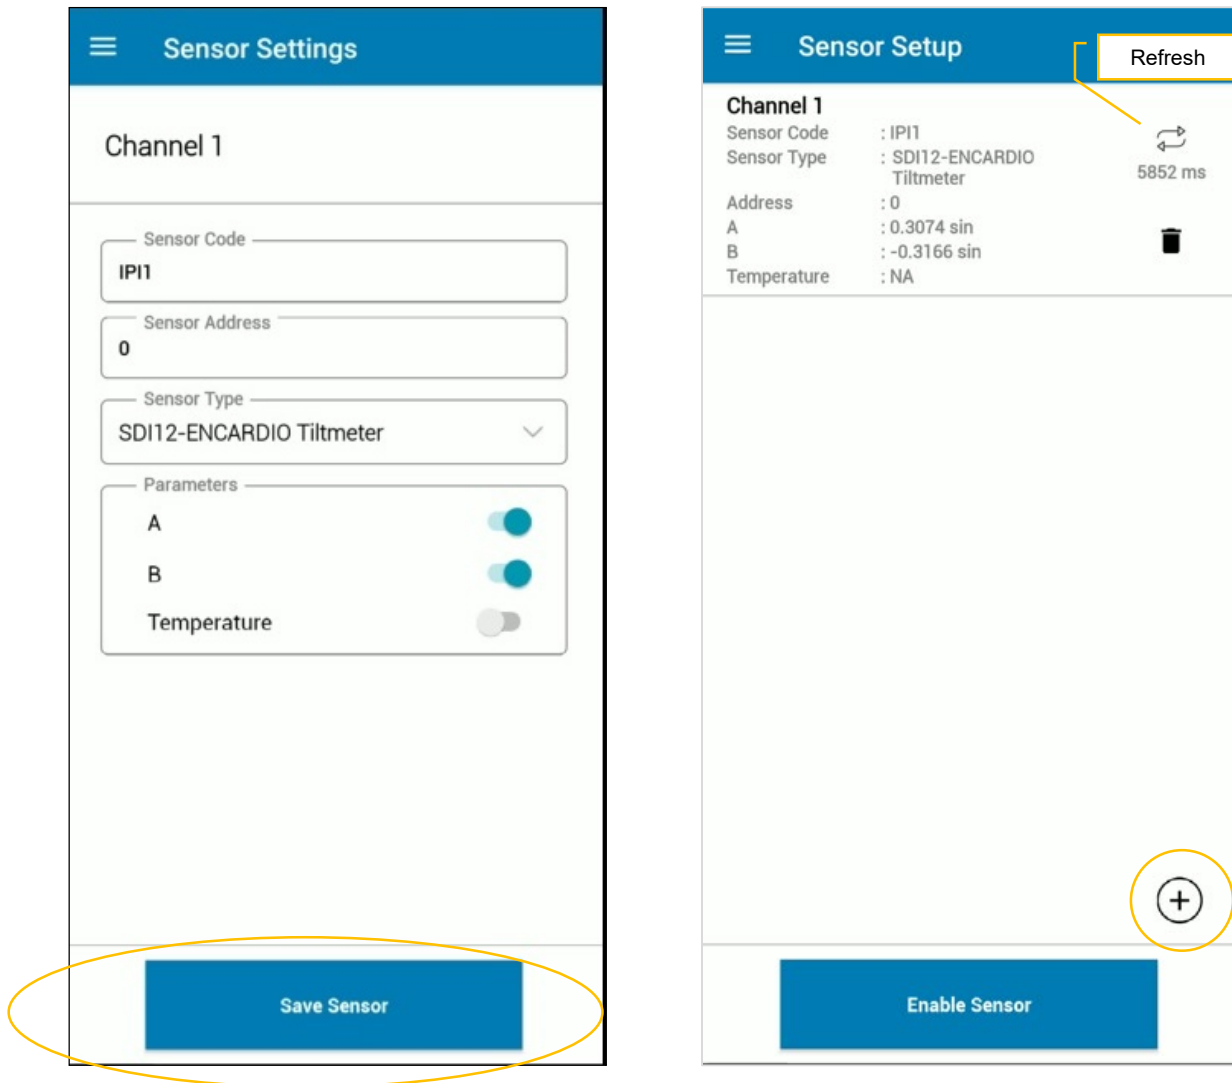

Figure 5-11
2. Sensor setting can be made as follows (shown in the left side screen in figure 5-11):
3. Click on 'Save Sensor'. The Node will now read the configured sensor, displaying the sensor readings, as shown in right side screenshot in figure 5-11. To get another reading, click on the 'Refresh' button.
4. Repeat above steps to configure other SDI-12 sensors connected in chain, by clicking on add (+) button (as shown in the right side screen in figure 5-11).